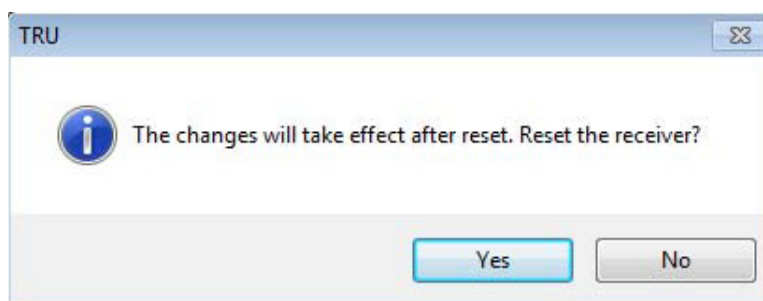

Figure 5-13: Reset Receiver
6. Select **Yes** at the prompt to reset the receiver (Figure 5-13). The **Connection Parameters** screen appears.